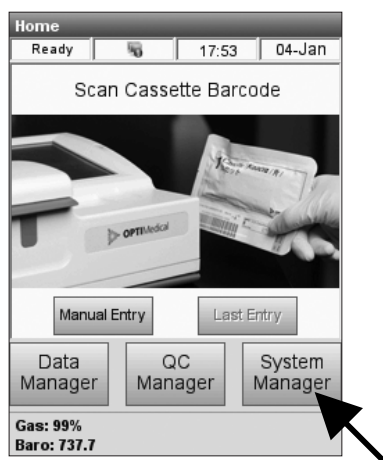

Fig. 3-1 Select System Manager
1. To set the time and date, press **<System Manager>** in the main menu (Fig. 3-1).